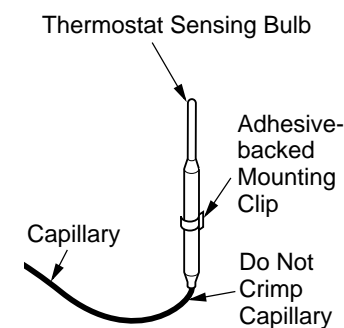

Figure 47 - Positioning the Thermostat Sensing Bulb in the Vertical Position with the Capillary at the Bottom
4. The mounting clip must be a minimum of 3" from bottom of fireplace to prevent crimping of capillary. Once you have decided on a location, clean the area thoroughly. Remove the paper backing from the adhesive on back of mounting clip. Press the clip into the new location so that the thermostat sensing bulb will be positioned vertically with the capillary at the bottom (see Figure 47). Slide the thermostat sensing bulb into the clip.